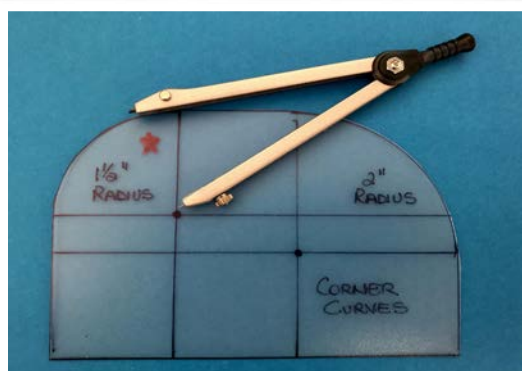

Fig 1
- To make the corner curve on top left of Corner Curve Template, mark a line 1 ½" (4cm) in from the left hand side and 1 ½" (4cm) down from the top. Mark the intersection with a dot and place the sharp end of the compass down, and mark a curve. See Fig 1 below. Cut out all three templates.